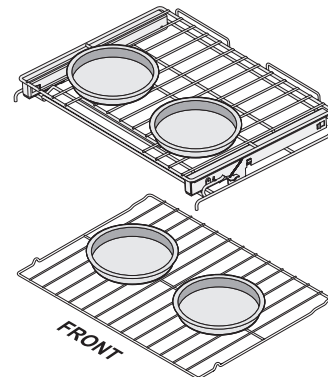

Figure 9: Pan spacing on multiple racks
- When using two oven racks, position cookware as shown in Figure 9. Allow at least 2-4 inches (5-10 cm) of space between cookware for proper air circulation.